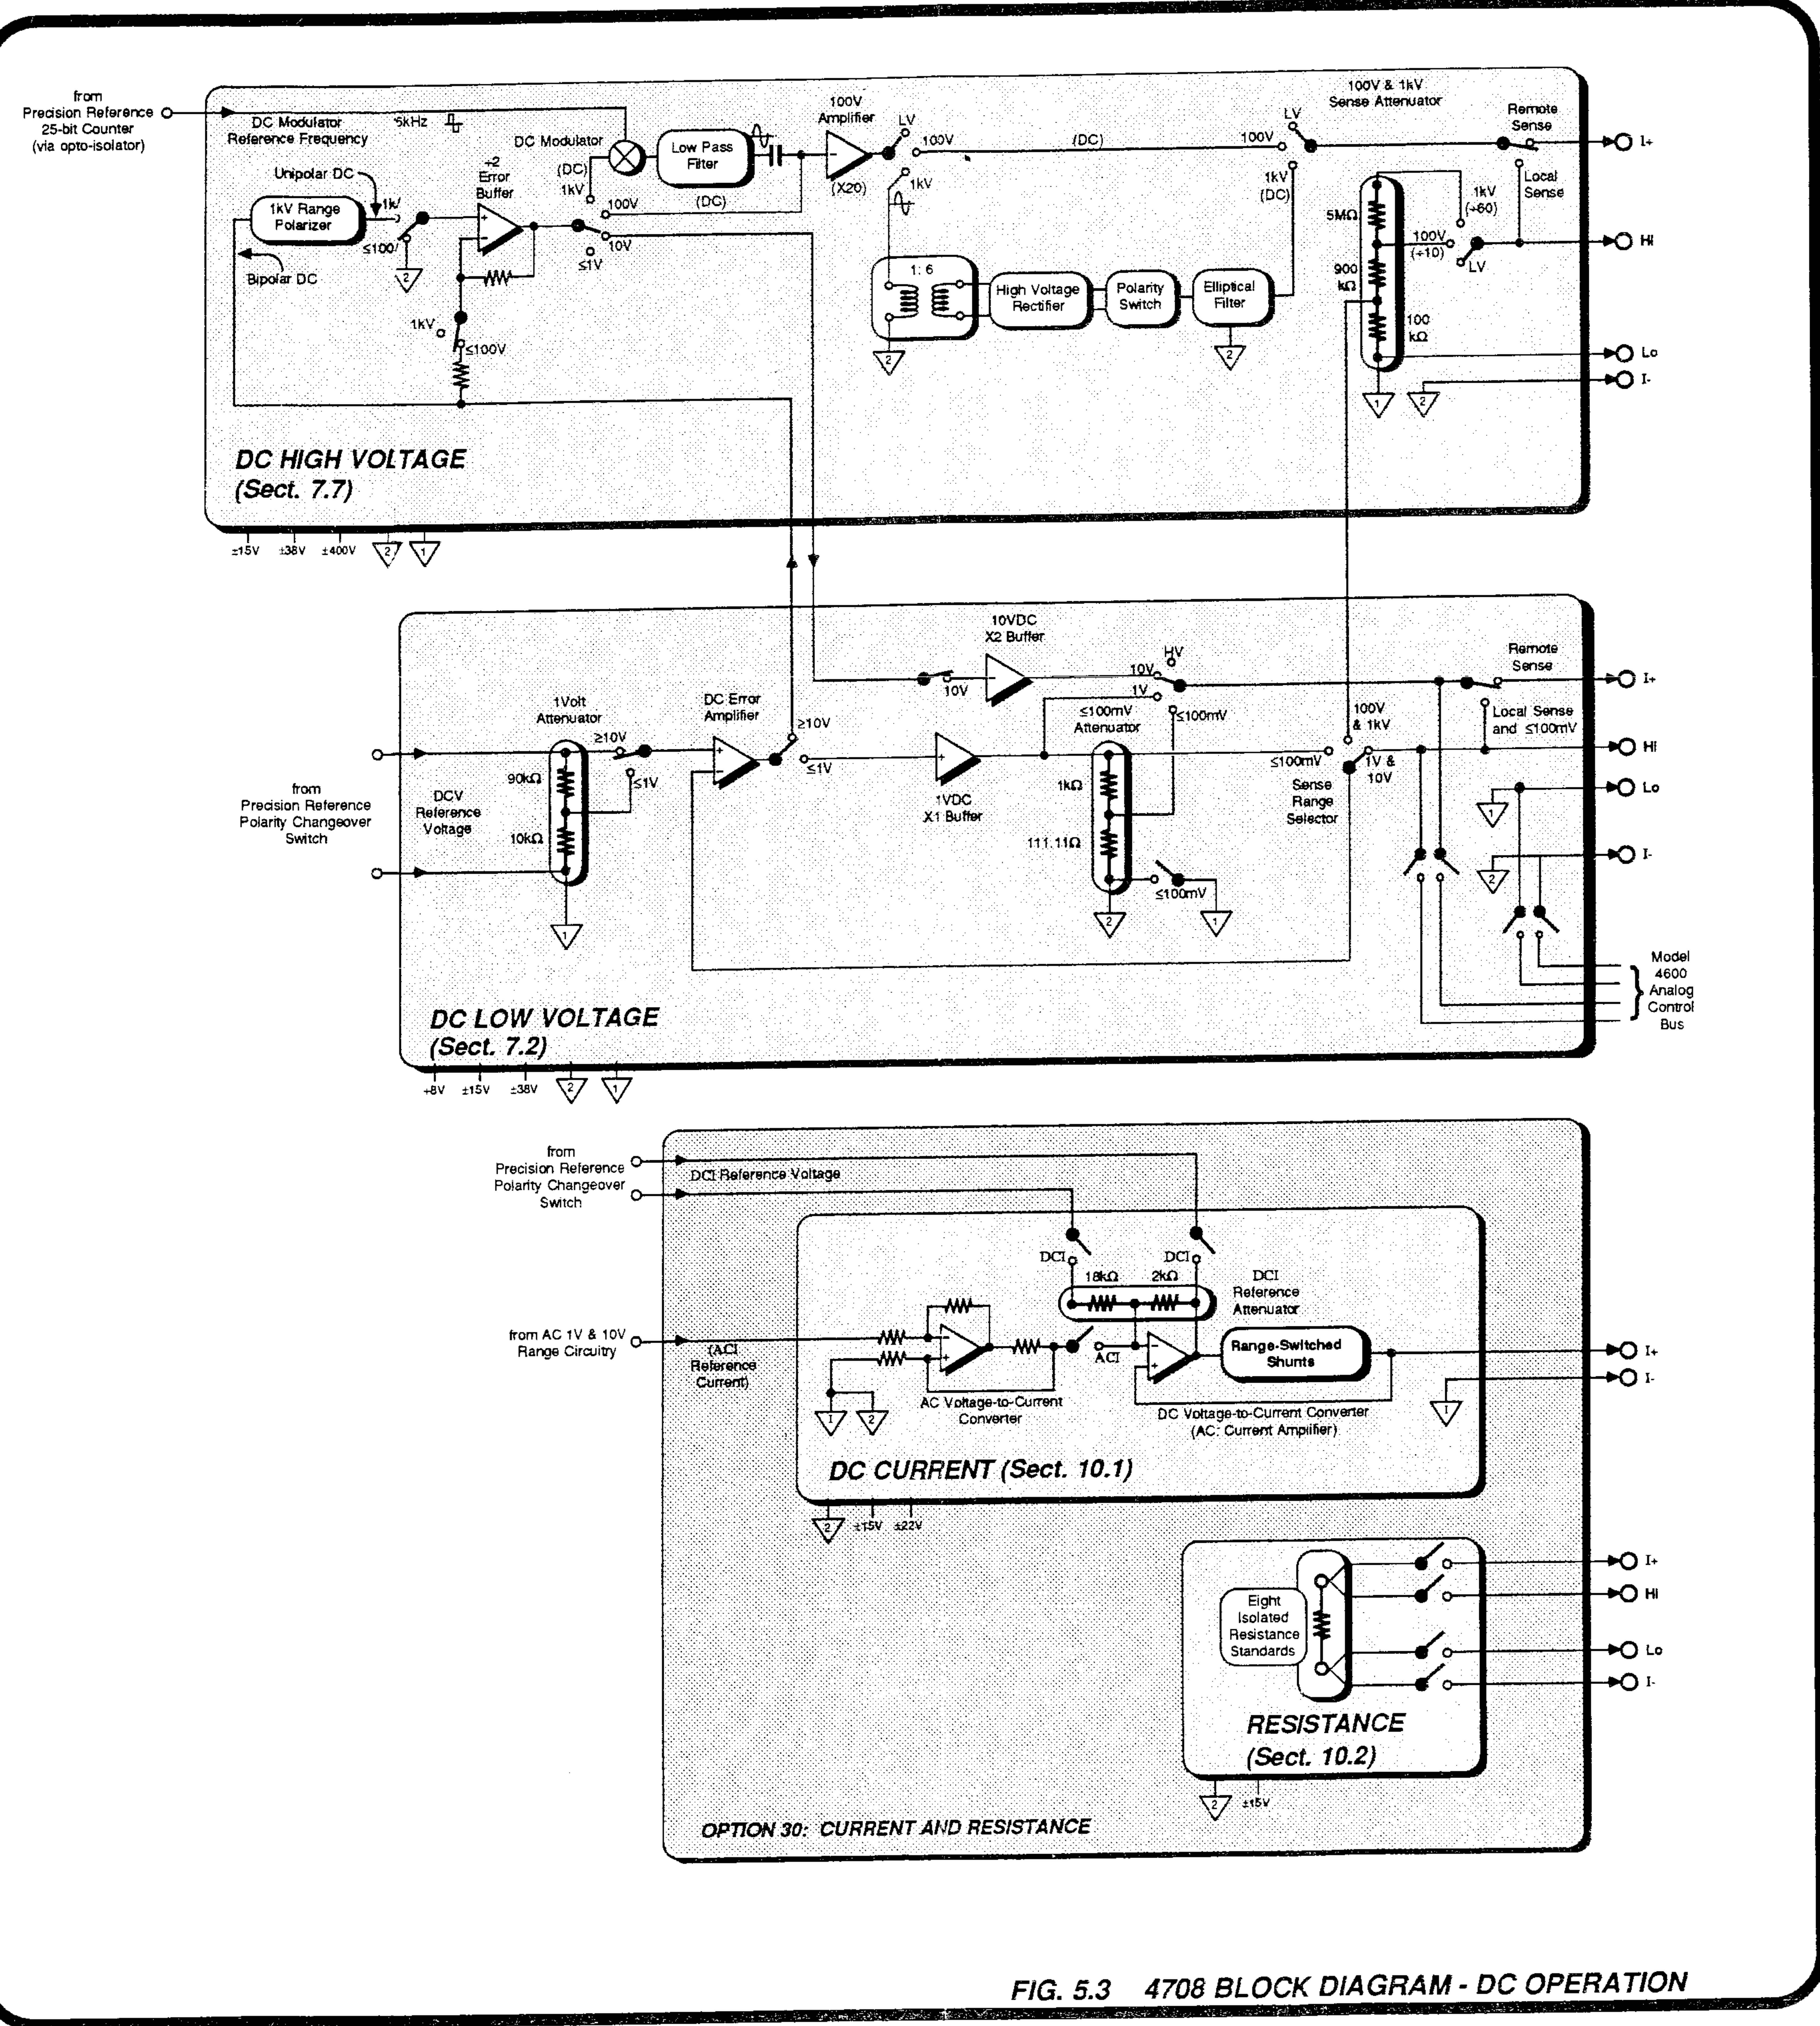

FIG. 5.3 4708 BLOCK DIAGRAM - DC OPERATION
(Fig. 5.3)
5.9.1 DC CURRENT (Fig. 5.3)
5.9.3 10A CURRENT RANGE (Fig 5.3, 5.4)
5.9.3 RESISTANCE (Fig. 5.3)